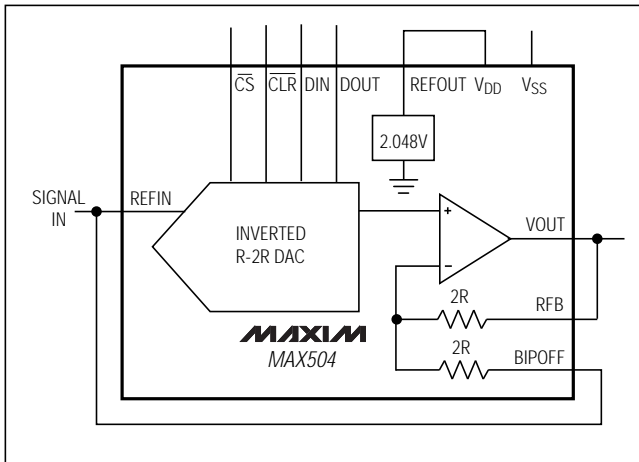

Figure 9. MAX504 Connected as Four-Quadrant Multiplier. The unused REFOUT is connected to VDD.
The MAX504 can be used as a four-quadrant multiplier by connecting BIPOFF to REFIN and RFB to VOUT, and using (1) an offset binary digital code, (2) bipolar power supplies, and (3) a bipolar analog input at REFIN within the range  $V_{SS} + 2\text{V}$  to  $V_{DD} - 2\text{V}$ , as shown in Figure 9.